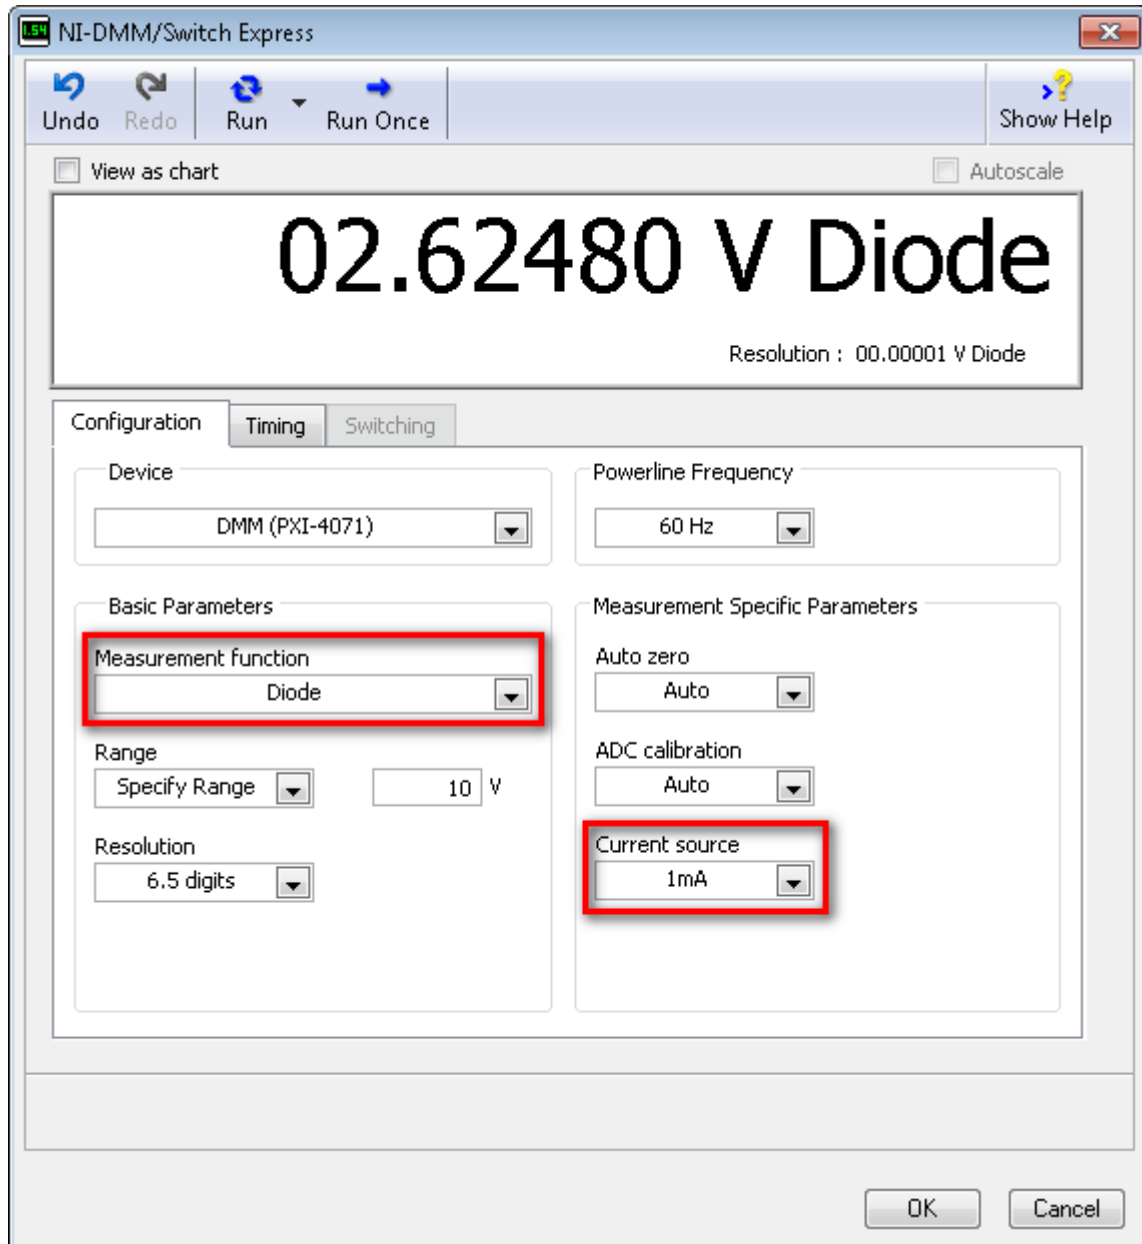

Figure 1-13. NI-DMM/Switch Express Dialog Box
- Configure the NI-DMM Express dialog box as described in Table 1-1 below. The final configuration should match Figure 1-13.